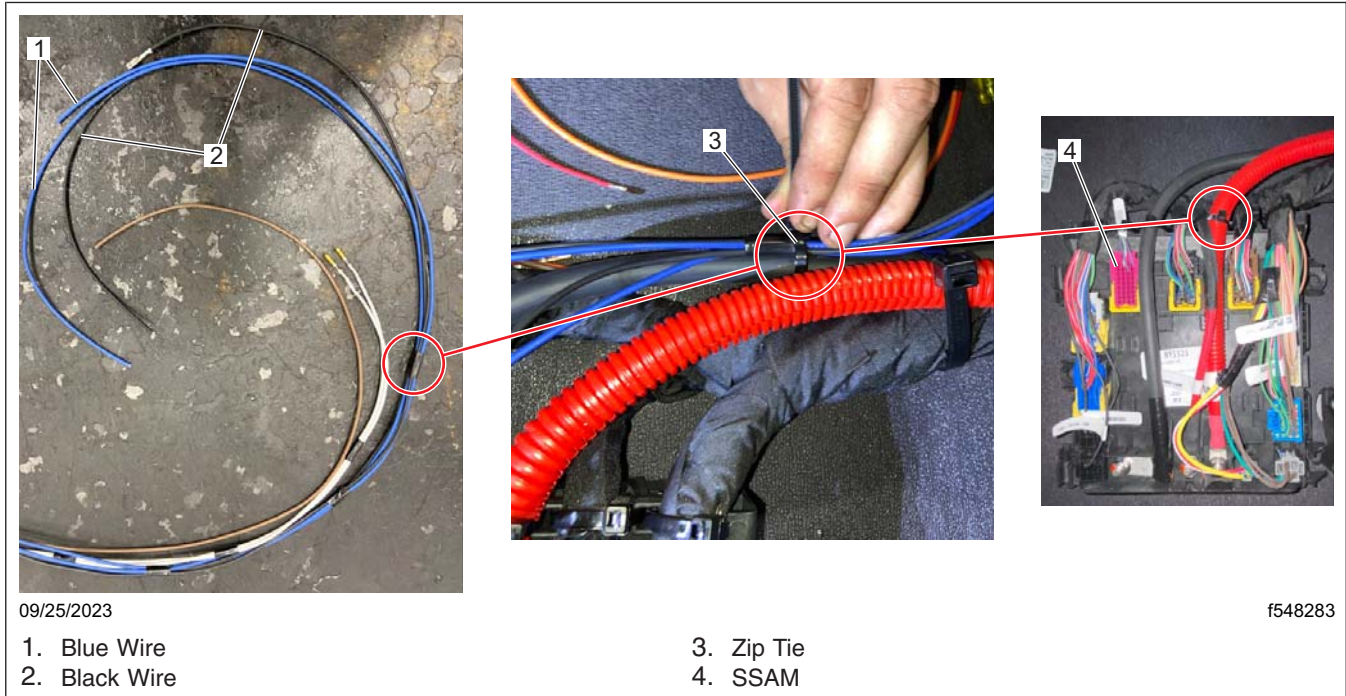

Fig. 15, Routing the Harness to the SSAM
7. Find the end of the harness (TSU CT44FRT033) with the two blue and two black wires. Attach the first taped grouping of wires to the harness heading into the SSAM with a zip tie, as shown in Fig. 15.